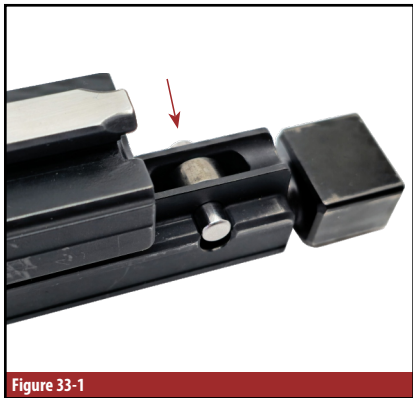

Figure 33-1
- Bolt carrier body and locking roller pin (fig. 33-1), especially along the runners on the bottom of the carrier and the bosses on the rear. Place two drops of lubrication into locking roller cam surface of bolt (fig. 33-2).